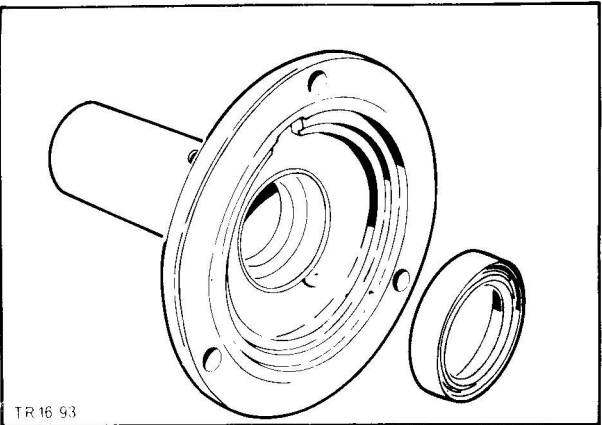

Fig. 50. Bearing retainer oil seal
39. Remove oil seal of main drive gear bearing retainer, Fig. 50.